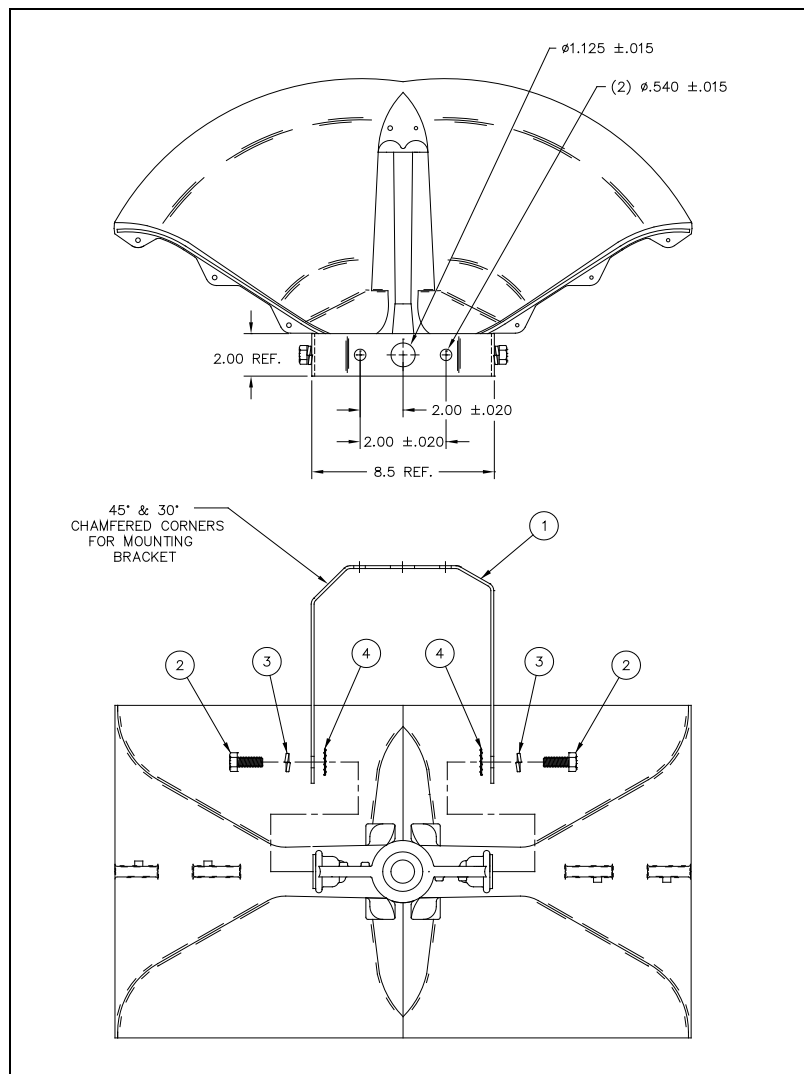

Figure 1.
**NOTE:** The numbers called out in the following instructions refer to the identification numbers in Figure 1.
Hardware used for Model 13302 and 13304 installation only. (Not shown in Figure 1.)
Hardware used for Model 13309 installation only. (Not shown in Figure 1.)